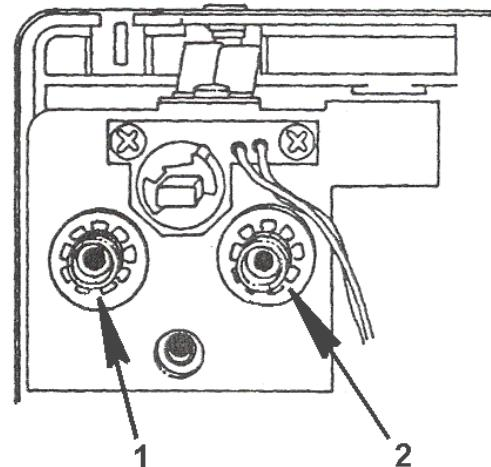

Figure 149 Dual Air Gauge Connections
- m. After bleeding down the air system, disconnect the air lines from the fittings on the back of the air gauge (Fig. 149, Item 1 and 2). A double needle air pressure gauge is used with vehicles with air brakes gauge.